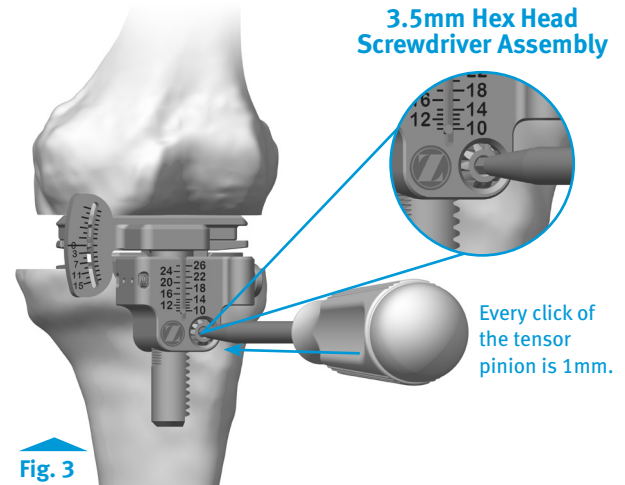

Fig. 3
- Using 3.5mm Hex Head Screwdriver, apply the appropriate amount of force to the tensor to distract the joint (Fig. 3).